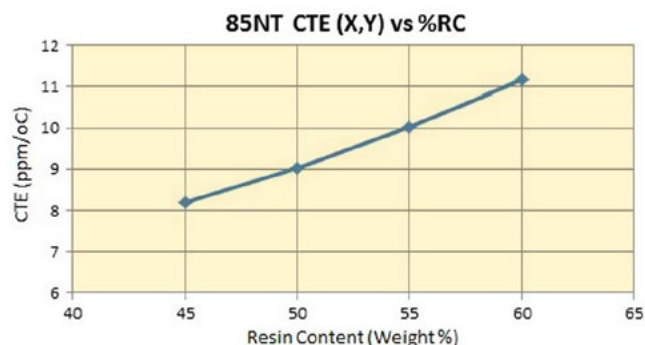

Figure 9.
4. Polyimide / Nonwoven Aramid (85N resin / NWA reinforcement) at 1 MHz (Figure 9).